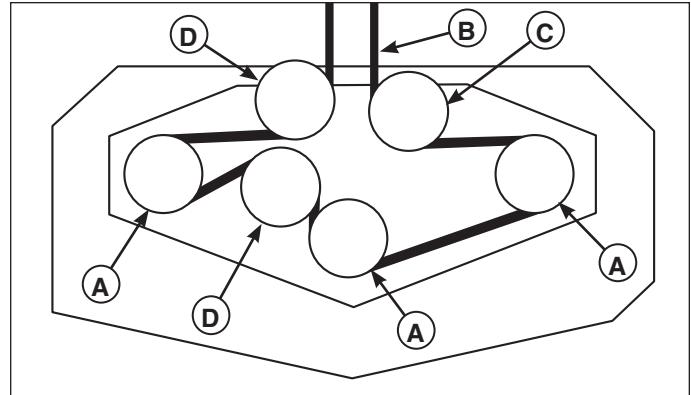

Figure 26. Mower PTO Belt Routing
4. Make sure the V-side of the belt runs in the pulley grooves (Figure 26).